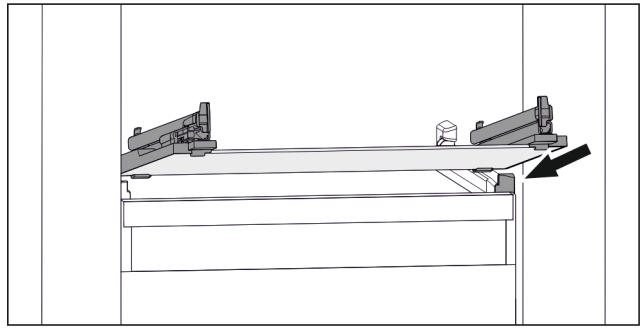

Fig. 167 Example illustration of glass shelf
- ▶ Position glass shelf at an angle behind the stoppers. (see *Fig. 167*)